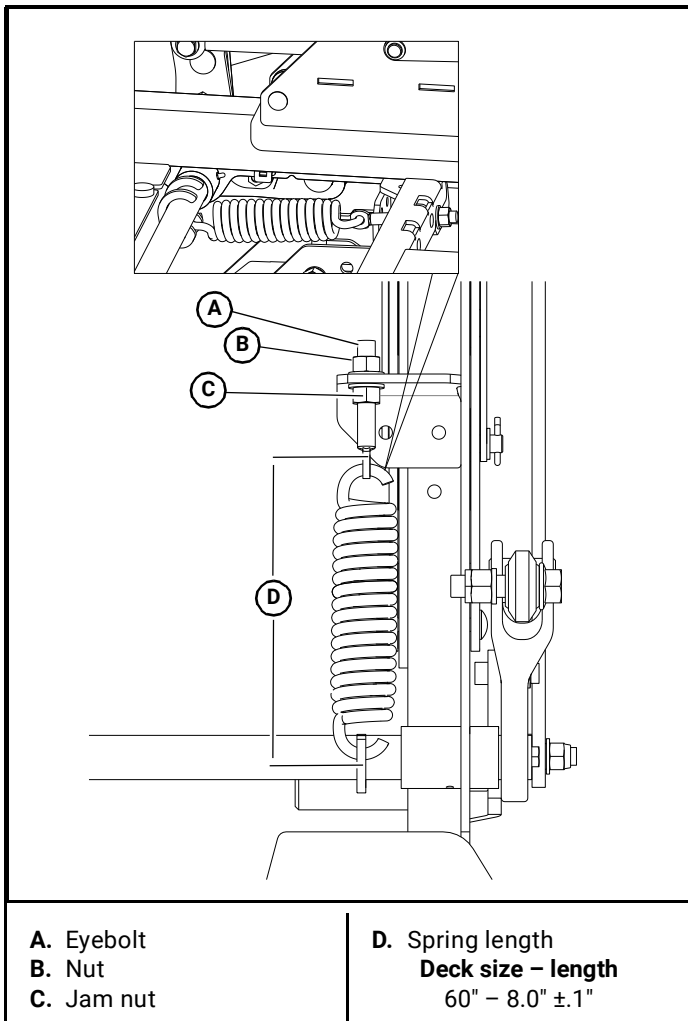

Figure 6-3
8. Adjust the deck lift assist spring tension by turning the nut until the spring length from the inside of one hook to the inside of the other hook matches the length indicated in the table. Tighten the jam nut once the distance is set. Figure 6-3